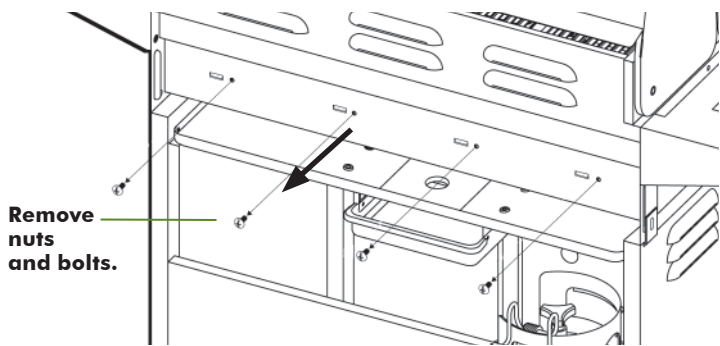

Fig. 16
3. To remove each Main Burner, first remove the nut & bolt that fastens the burner flange to back wall. (Fig. 16) Leave Side Burner in place.